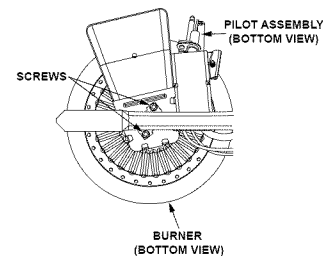

FIGURE 31.
1. Take off the burner by removing the two (2) screws located underneath the burner.
2. Check the burner to see if it is dirty or clogged. The burner may be cleaned with soap and hot water (Figure 31).
7. Re-attach the burner. Note the orientation of the burner (Figure 31.)
3. Take off the burner by removing the two (2) screws located underneath the burner. See Figure 31.
11. Re-attach the burner. Note the orientation of the burner (Figure 31.)